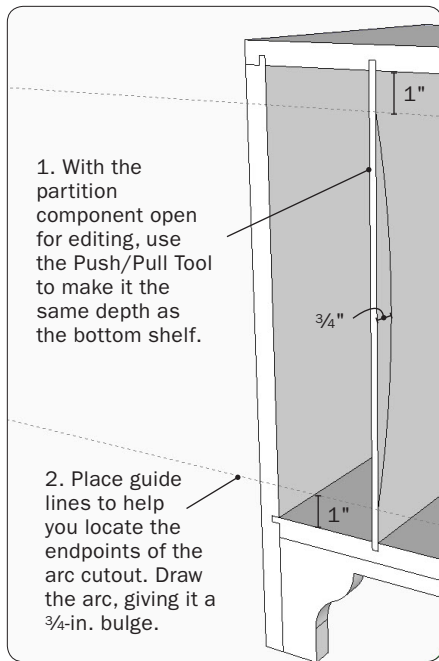

Figure 17. Begin shaping the partition.
Step 14 Use the Push/Pull Tool to push the partition component to the same depth as the bottom component. Place guide lines for the endpoints of the cutout in the partition, as shown in Figure 17. Then select the Arc Tool and use it to draw an arc that has a $\frac{3}{4}$ -in. bulge between the guide lines on the side of the partition.